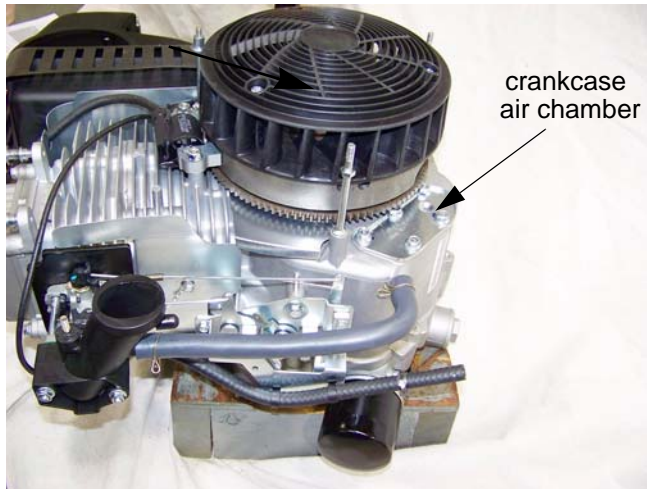

Figure 2.3
1. The PCV chamber is vented to the intake manifold through a rubber hose. The rubber hose directs crankcase fumes to the heat box assembly. See Figure 2.3.